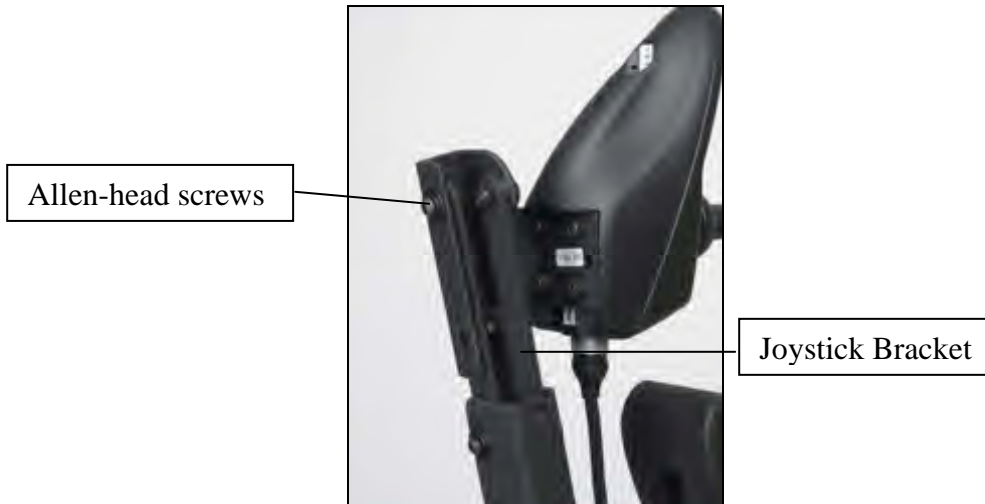

Figure 1
1. Position the joystick on the joystick bracket. Match the holes in the joystick with the holes in the bracket. See figure 1.